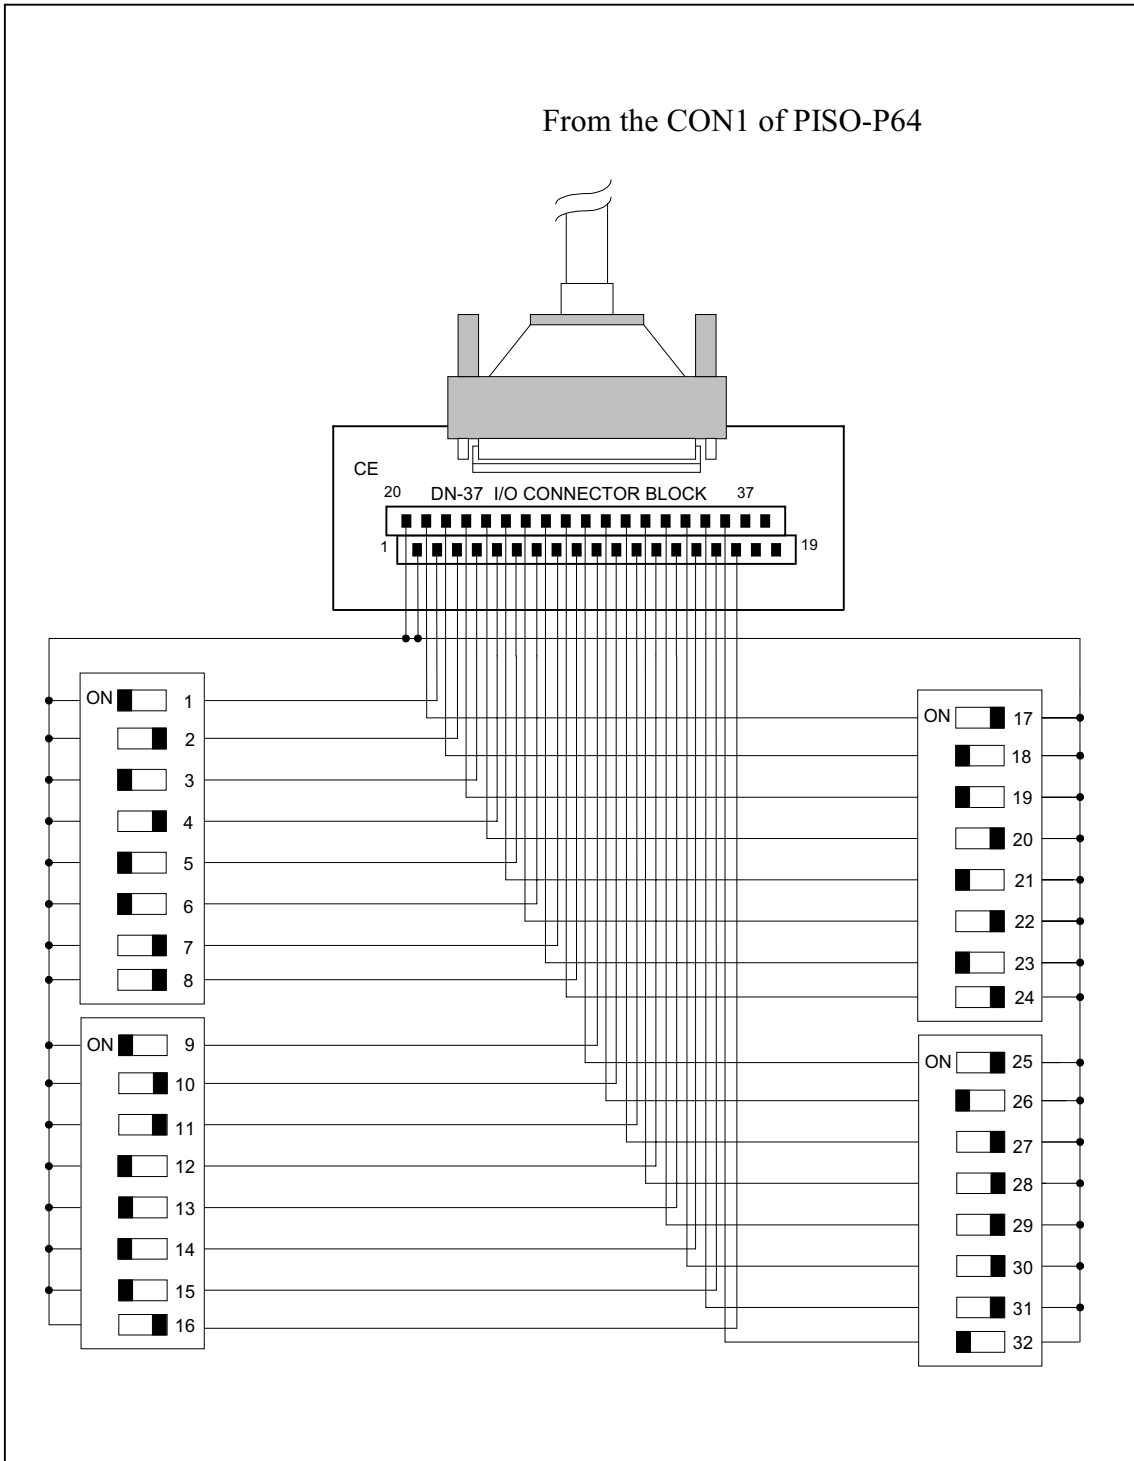

Figure 4-2-2. The circuit diagram of external device 2 for the digital inputs of PISO-P64
- The circuit diagram of external device 1: Refer to Figure 4-2-2